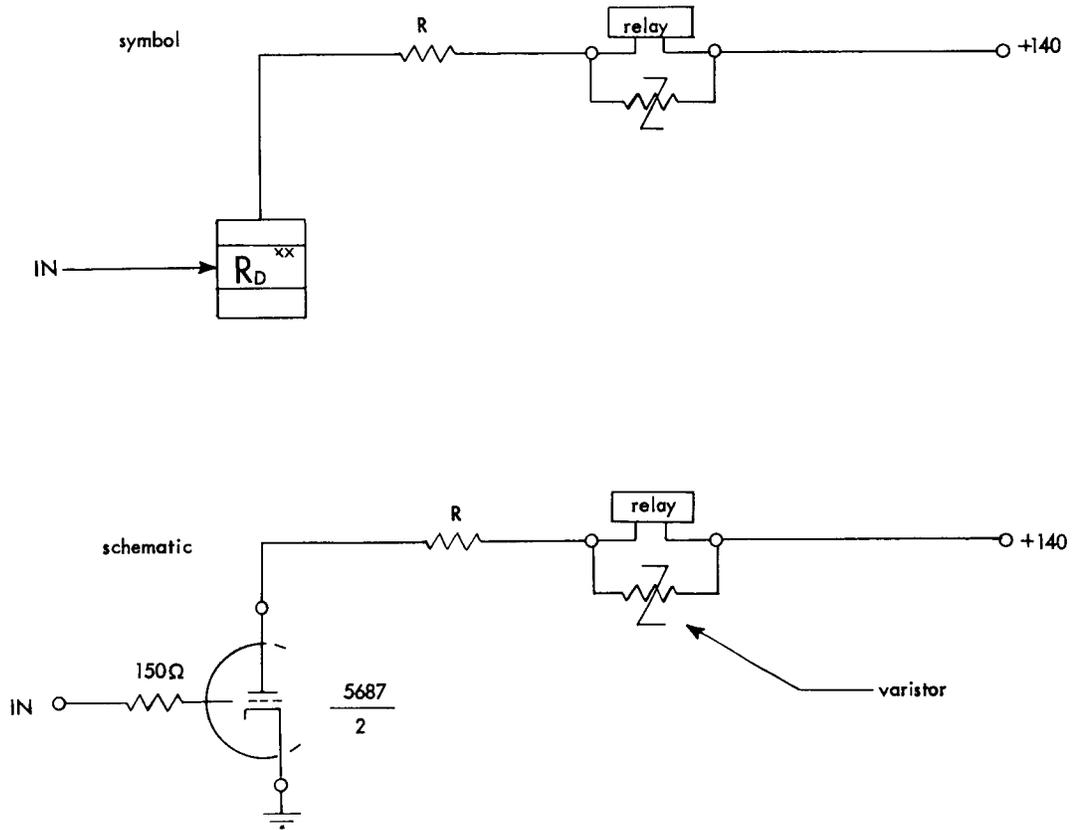

FIGURE C45. RELAY DRIVER -- RD
The relay driver (RD) (Figure C45) is used to supply the current for operation of relays. A load resistor in series with the relay that is to be operated is chosen so that the total load on the RD is not less than 2000 ohms. When the input is brought up, the tube conducts and the relay is picked. An RDX is an RD using a 5965 tube in place